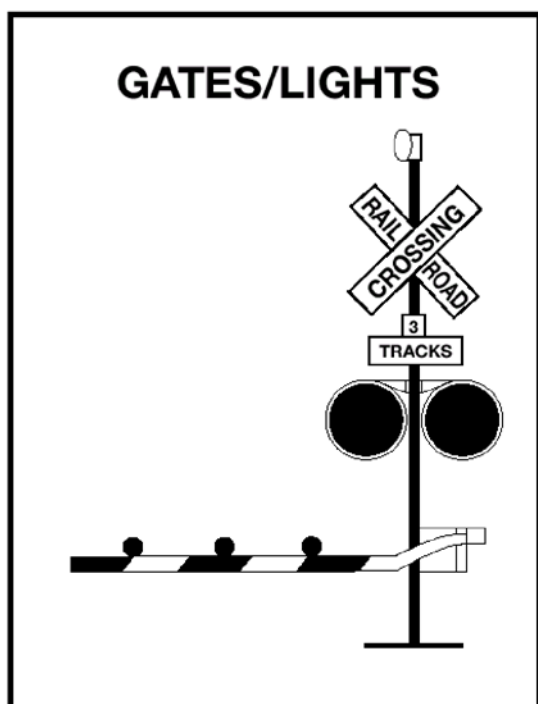

Figure 10.8
**Flashing Red Light Signals.** At many highway-rail grade crossings, the crossbuck sign has flashing red lights and bells. When the lights begin to flash, stop! A train is approaching. You are required to yield the right-of-way to the train. If there is more than one track, make sure all tracks are clear before crossing. (See Figure 10.8.)
**Gates.** Many railroad-highway crossings have gates with flashing red lights and bells. Stop when the lights begin to flash and before the gate lowers across the road lane. Remain stopped until the gates go up and the lights have stopped flashing. Proceed when it is safe. If the gate stays down after the train passes, do not drive around the gate. Instead, call your dispatcher. (See Figure 10.8.)